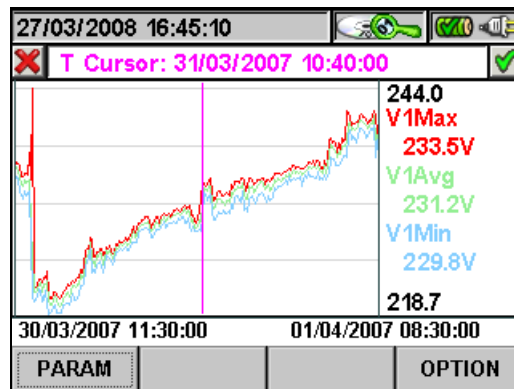

Fig. 129: Recording graph
- The **ENTER** key (or the smart icon on the display) confirms the selection previously made and displays the graph of the selected parameter (Fig. 129).